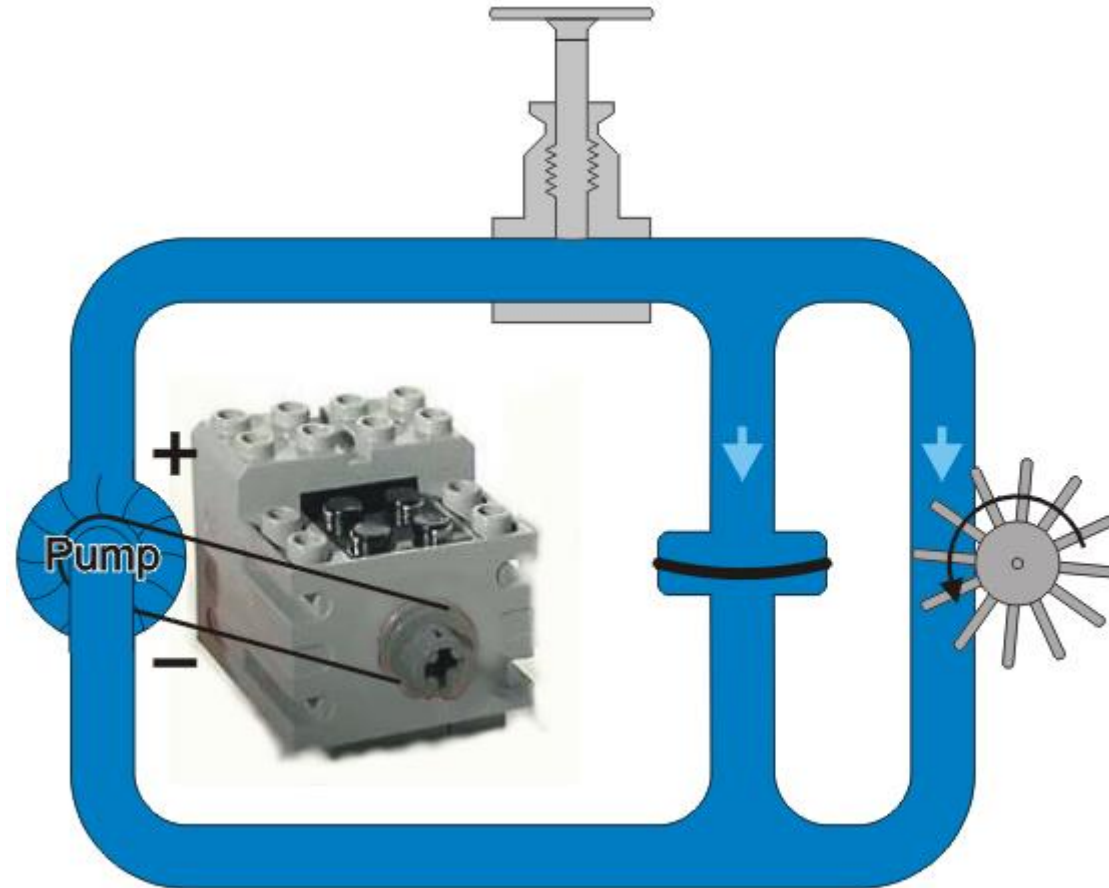

Fig 21: The water wheel begins turning.
- As the membrane becomes distorted and begins to oppose the flow of water, there is force on the wheel which begins to turn, shown in **Fig.21**.